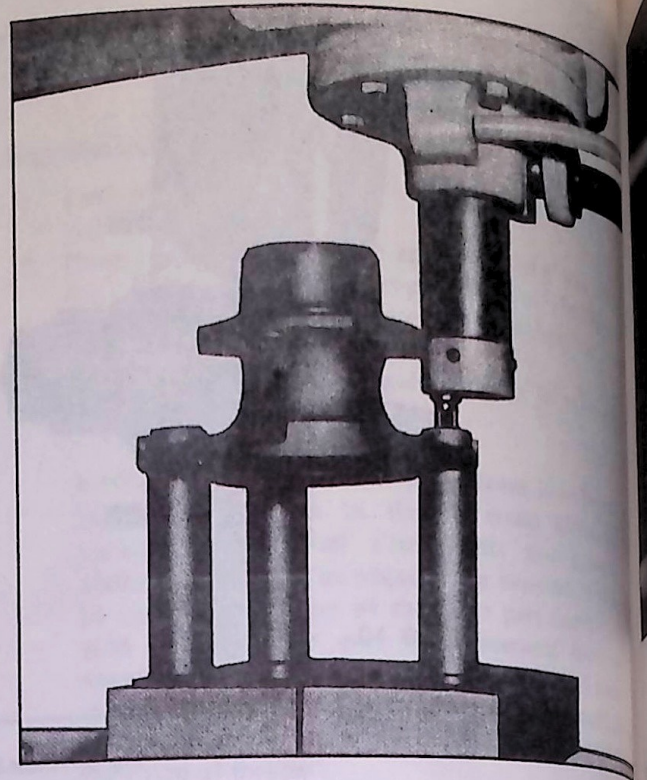

Fig. 9—Pressing Hub Bolt (Typical)
2. If necessary to replace hub bolts, press out old bolts and press new bolts in making sure bolt heads seat squarely on hub flange (fig. 9).
4. Press new bolts into hub (fig. 9).